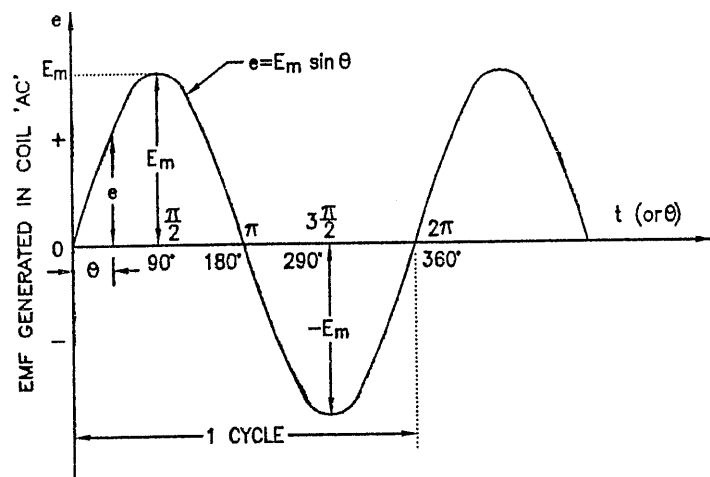

FIG. 2.12 : SINUSOIDAL WAVEFORM OF EMF
- The wave shape of the induced e.m.f. is shown in Fig. 2.12. This wave is called sinusoidal voltage wave.